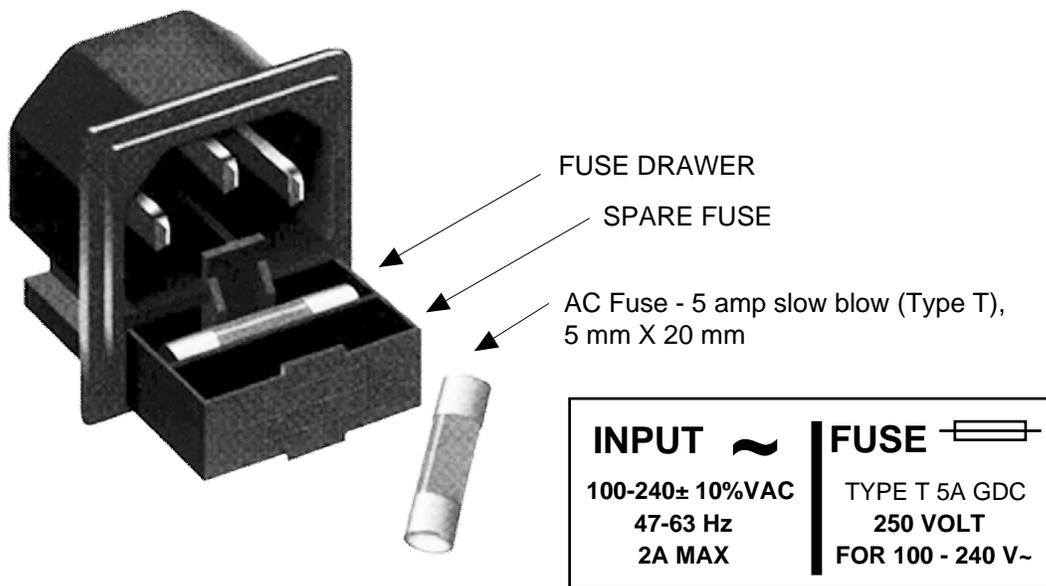

FIGURE 2.3 Fuse Location and Spare Fuse
10. **AC FUSE** - The fuse is a 5 mm X 20 mm, 2 amp slow blow (Type T) and is inserted in the far slot in the drawer below the AC input as shown in Figure 2.3. There is a spare fuse in the near slot. If a fuse continues to open, the power supply is most likely defective.
11. **AC FUSE** - The fuse is a 5 mm x 20 mm, 5 amp slow blow (Type T) and is inserted in the far slot in the drawer below the AC input as shown in Figure 2.3. There is a spare fuse in the near slot. If a fuse continues to open, the power supply is most likely defective.